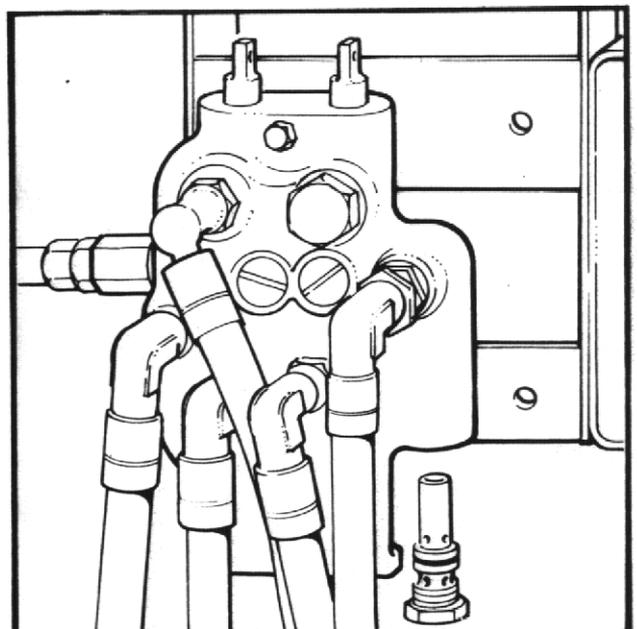

Fig.7
- c) If the correct pressure is not obtained remove the relief valve cartridge (Fig.7) from the control valve and replace with a new one.